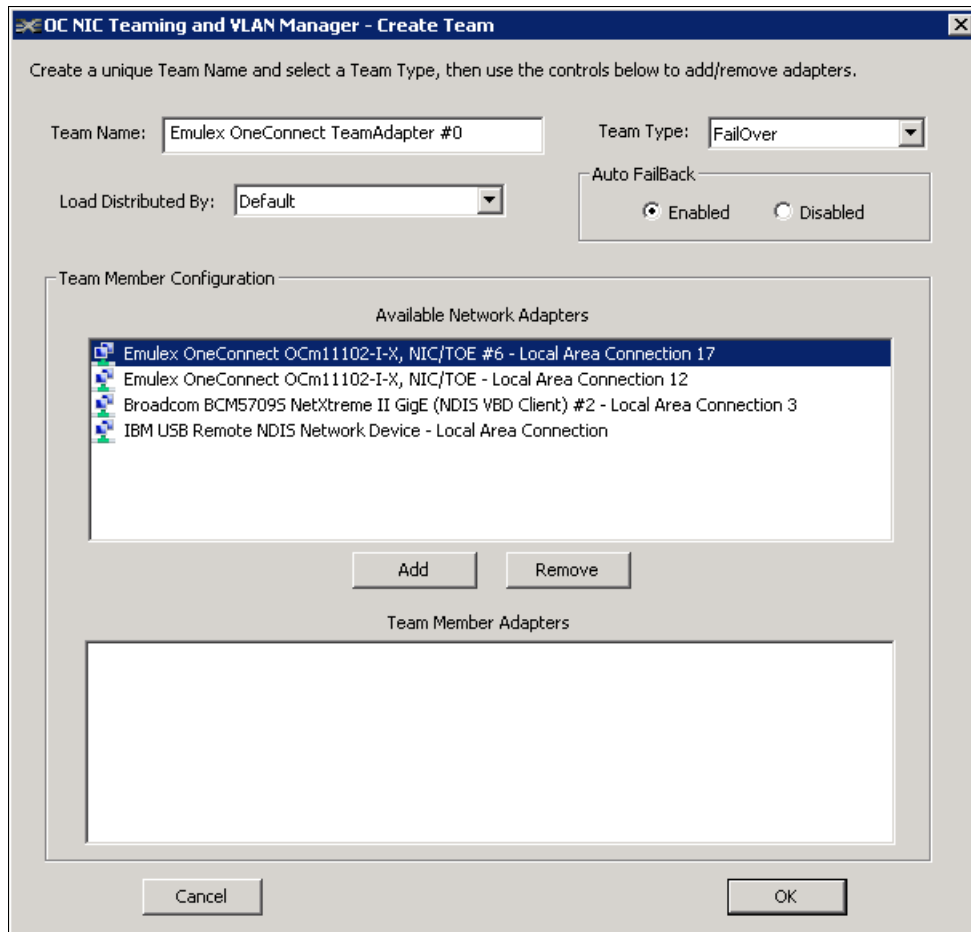

Figure 7-32 Creating and choosing a team name and type
2. In the NIC Teaming and VLAN Manager dialog box (Figure 7-32), complete the following steps: